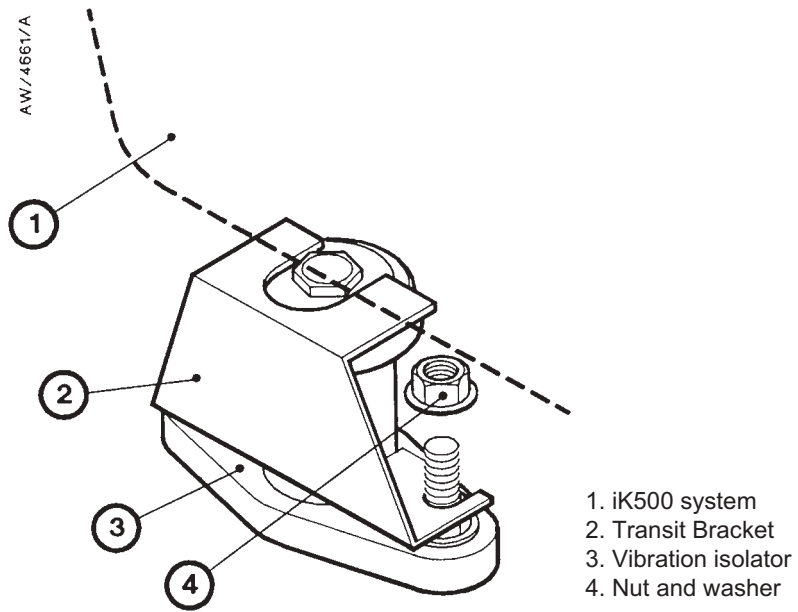

Figure 3-6 - Remove the isolator transit brackets
2. Refer to Figure 3-6. Remove the nuts and washers (4) which secure the four transit brackets (2) to the vibration isolators (3), then remove the transit brackets.